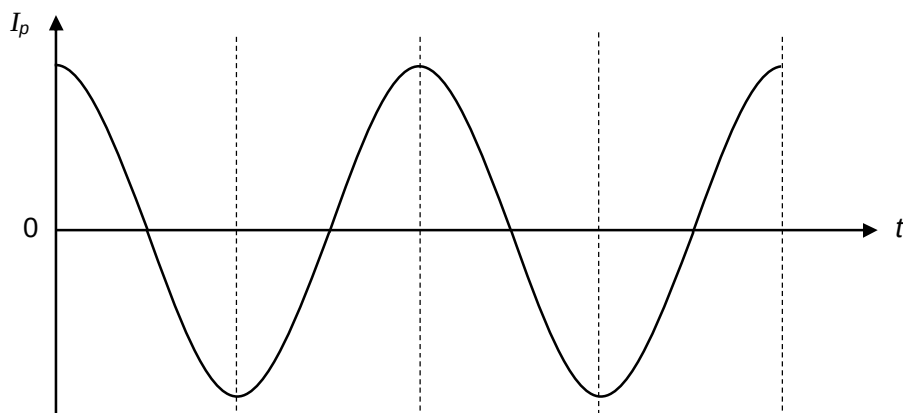

Fig. 5.2
- (iii) The variation with time t of current I_p in the primary coil is shown in Fig. 5.2.